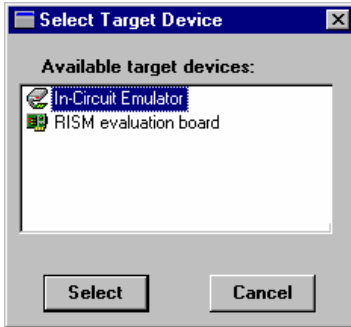

FIGURE 3 WEMU-96 Select Target Device dialog box.
5. Start WEMU-96. The program is in the Windows' Start menu under Programs | Signum Systems WEMU-96. The Select Target Device window appears (Figure 3).